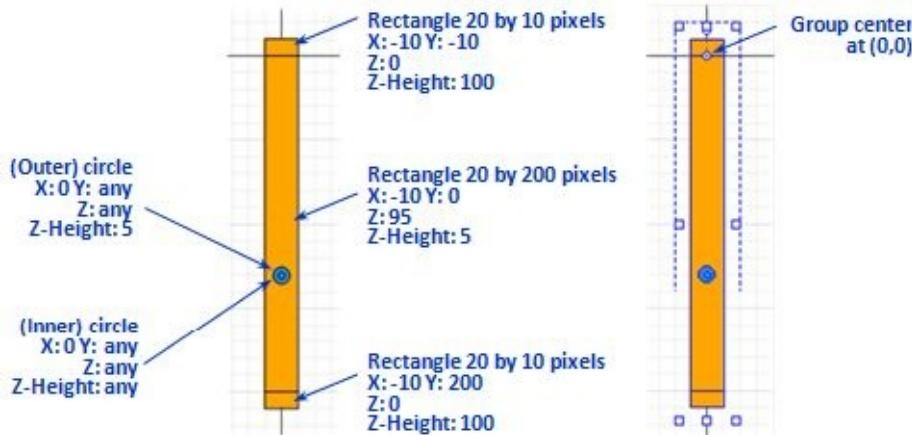

Figure 14.11 The (XY) projection of the bridge crane
7. Add an event *moveX*, two variables, *startX* and *targetX*, and a function *X()*, as shown in Figure 14.11.